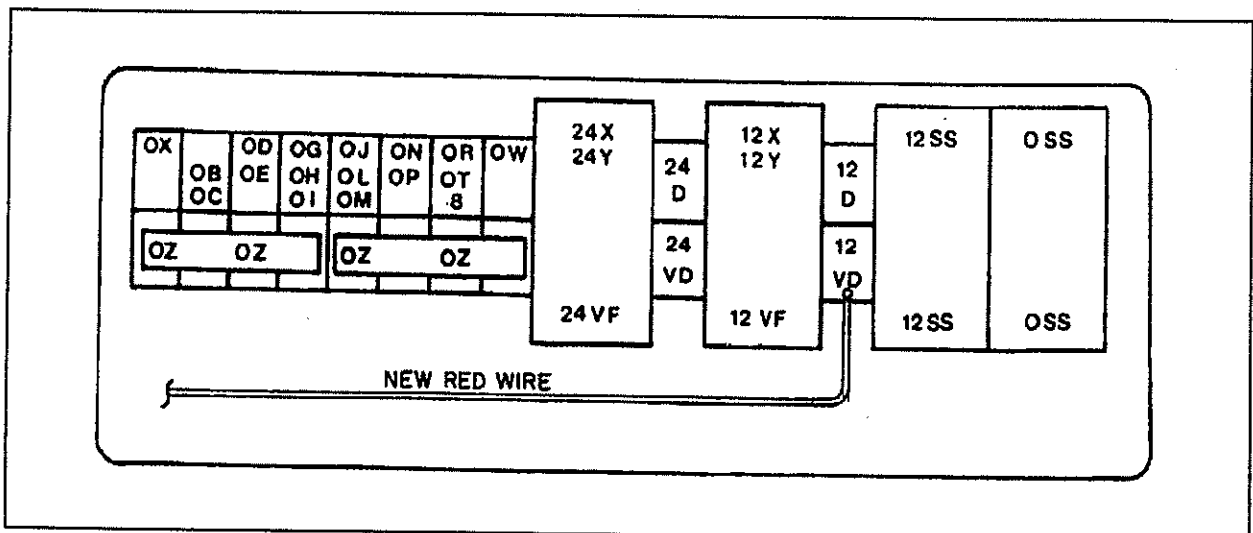

Fig. 4 - Junction blocks in front electric compartment 06010
- e) Route wire to 12 volt terminal where wire #12VD is connected. Refer to figure 4.
e) Route wire to 12 volt terminal where wire #12VD is connected. Refer to figure 4 page 7.